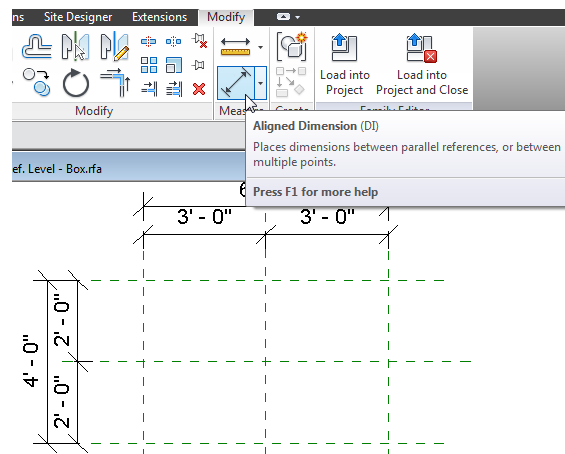

Figure 5
8. Add dimensions (Modify tab or type: DI) to each group of reference planes. Two vertical and two horizontal. There should be an overall and a continuous string including the centerline in each direction (see Figure 5).